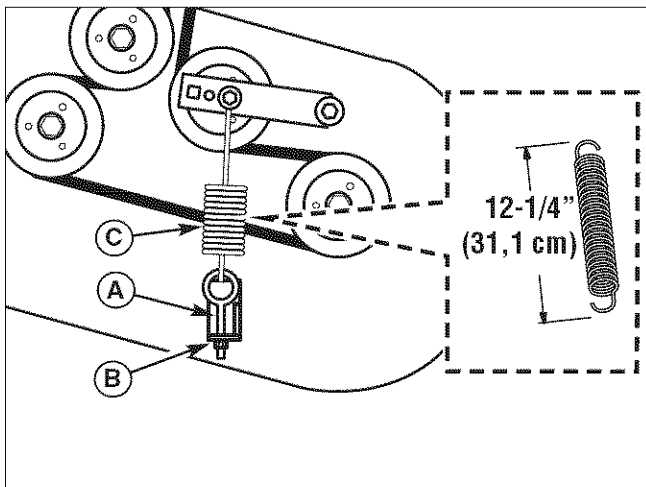

Figure 36. Mower Belt Tensioner Spring Measurement (36" Models)
Measure the mower belt tensioner spring (C, Figure 36). The measurement should equal 12-1/4" (31,1 cm). If the measurement does not equal 12-1/4" (31,1 cm), adjust the anchor eyebolt (A) by turning the adjustment nut (B) until a measurement of 12-1/4" (31,1 cm) is achieved.